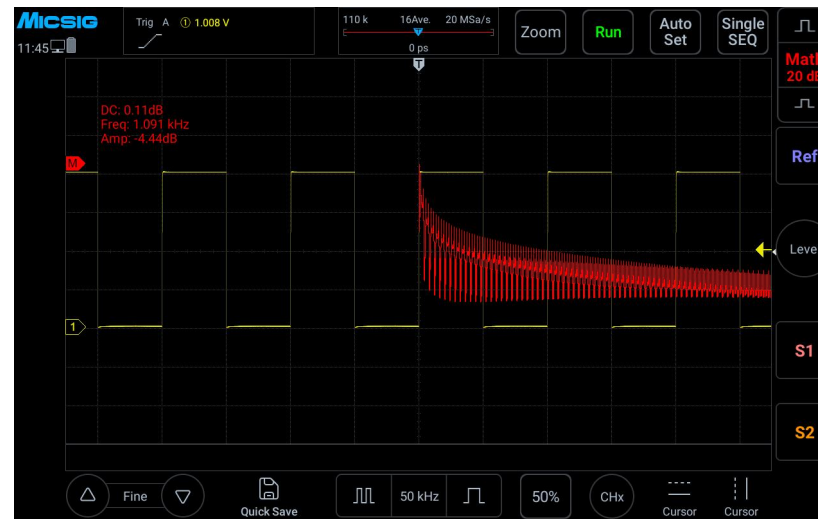

Figure 10-3 FFT Window
- 2) Tap **FFT** spectrum type “Line/Decibel” to open the FFT window (see Figure 10-3 FFT Window).